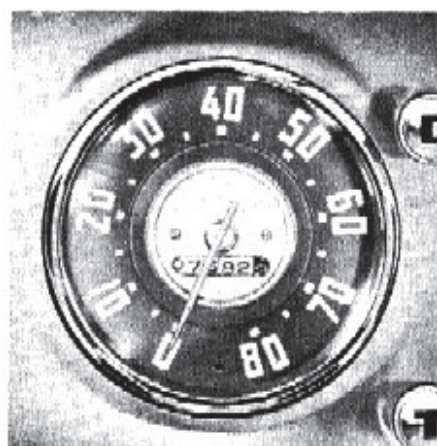

Fig. 4—Speedometer
**Speedometer.** The speedometer is located to the right of the instrument group (fig. 4). As the vehicle is driven, the hand moves around the dial indicating the speed of the vehicle in miles-per-hour. The figures visible through the opening near the center of the speedometer indicate the total mileage the truck has been driven. This part of the speedometer is known as the odometer.